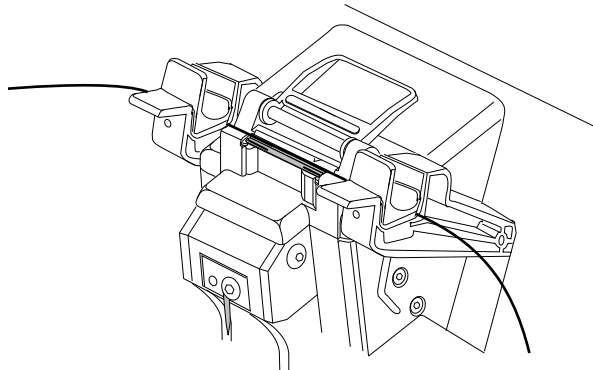

Figure 43
- b). Raise the transfer arms to the Splice Pak fixture. The transfer arms will center the fusion splice in the protector (Figure 43).